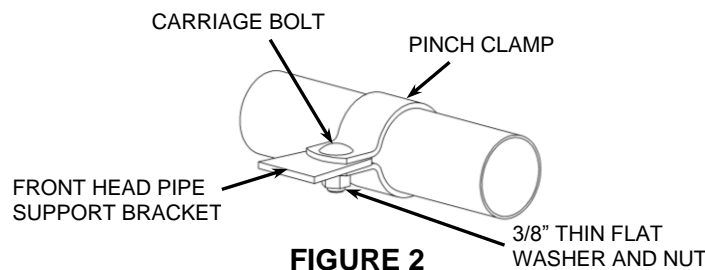

FIGURE 2
8. Slide the supplied pinch clamp over the front headpipe making sure the square hole on the clamp is facing up and towards the inside. Position the clamp over the support bracket so that the pinch clamp captures both sides of the bracket. See **FIGURE 2**. Insert the supplied 3/8" carriage bolt through the top of the pinch clamp and support bracket. Install the 3/8" thin flat washer and nut onto the bottom of the carriage bolt but **DO NOT TIGHTEN** at this time. Leave the nut loose so the headpipe can be adjusted.
16. Then fully tighten the flange nuts on the exhaust port studs, followed by the nut for the 3/8" carriage bolt on the front headpipe support clamp and the nut on the front headpipe support bracket. See **FIGURE 2**.